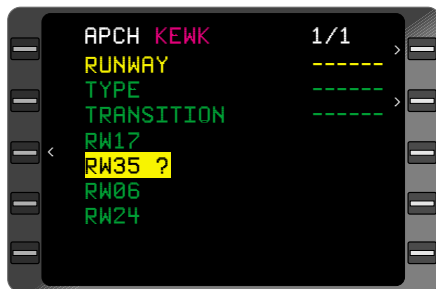

Figure 3-54
4. Line Select Key - DEPRESS to position cursor over the desired **RUNWAY** on the runway list. (Figure 3-54)